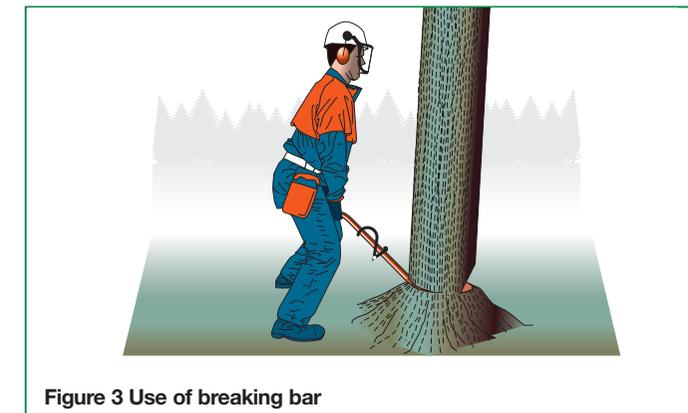

Figure 3 Use of breaking bar
- ❑ 19 Where necessary use the appropriate felling aids. When using a breaking bar to lever over the tree, keep the back straight using the legs to lift. Keep both hands on the lever (see Figure 3).